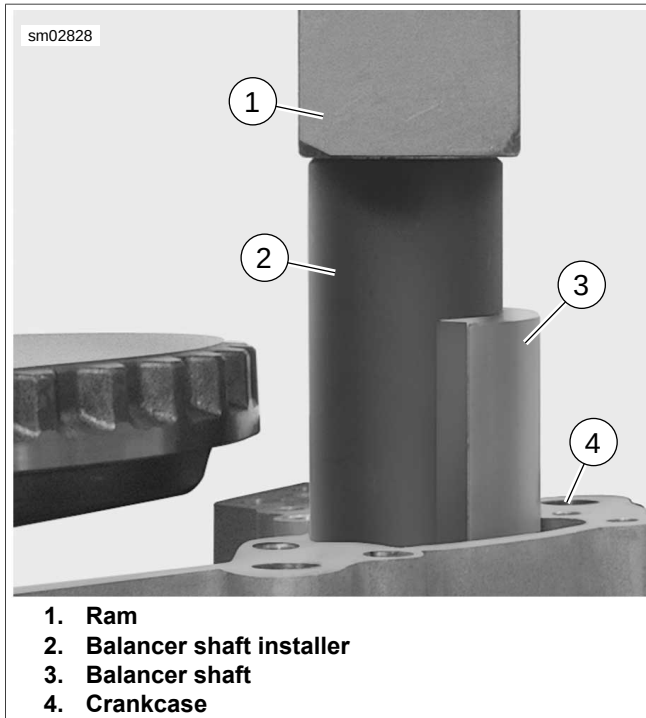

Figure 3-155. Balance Shaft Installation
2. See Figure 3-155. Place balancer shaft (3) and bearing in crankcase (4).
3. Place BALANCER/BEARING INSTALLER (Part No. HD-48309) (2) over balancer shaft.